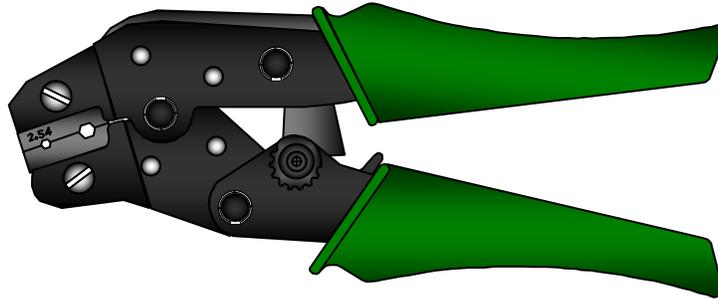

Figure 7-37 – 801 LM Crimp Tool use 2.54 mm Cavity
Step 21 - Crimp the crimp sleeve using the 2.54 mm hex cavity. See Figure 7-37.